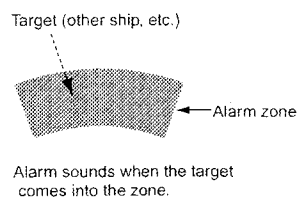

Fig. 3
- ① Push [MENU] to call up the FUNCTION menu.
- ② Push [ v ] until the "ZONE ALARM" section becomes highlighted.
- ③ Push [ < ]/[ > ] to select IN or OUT
- IN : Alarm sounds when the target comes into the zone. (see Fig. 3)